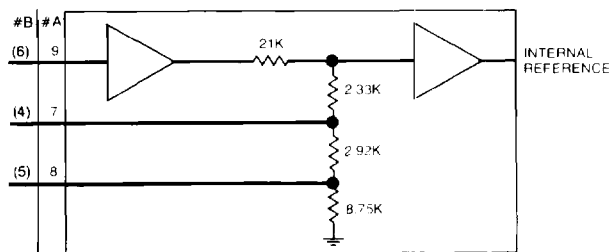

FIGURE 3 Reference Conditioner
An equivalent circuit for gain control is shown in figure 3. When both gain-control pins 7 (4) and 8 (5) are left unconnected (OPEN), the gain of the converter is 2.0 (i.e., output analog signals are  $2 \times V_{IN} \sin \theta$  and  $2 \times V_{IN} \cos \theta$ ). When pin 8 (5) is connected to GND and pin 7 (4) is left unconnected the converter gain is 1.0. When pin 7 (4) is connected to GND and pin 8 (5) is left unconnected the converter gain is 0.5. The accuracy of the gain resistors is 0.05%. As can be seen from the equivalent circuit, the gain of the converter can be modified by adding a resistor between pin 7 (4) or 8 (5) and GND. Users, however, are cautioned against using a large value resistor as the temperature coefficient of the external resistor will not be matched with TCR of internal resistor. Note that two channels can be set-up for different gains, if required.